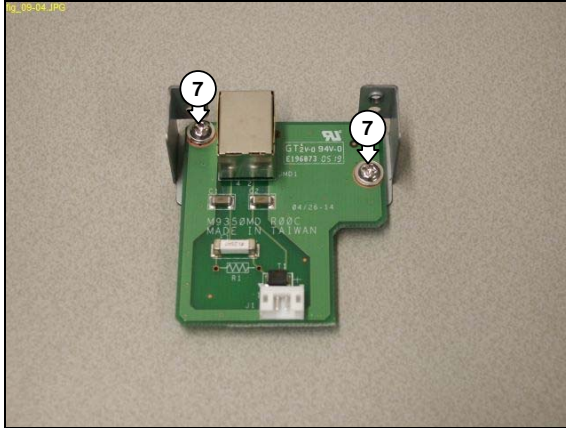

Figure 12.9-4
2. Remove the 2 mounting screws (7) from the RJ11 board. See Figure 12.9-4.